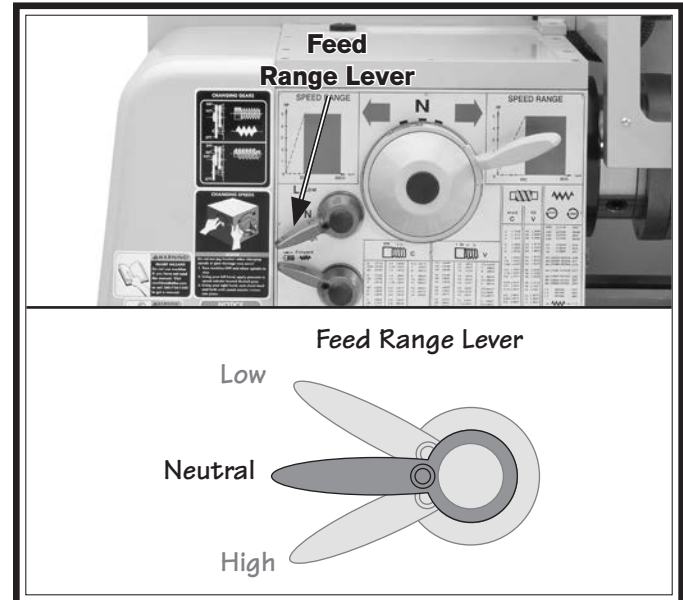

Figure 9. Feed range lever.
6. Disengage the quick-change gearbox by moving the feed range lever to the neutral (middle) position, as shown in **Figure 9**.